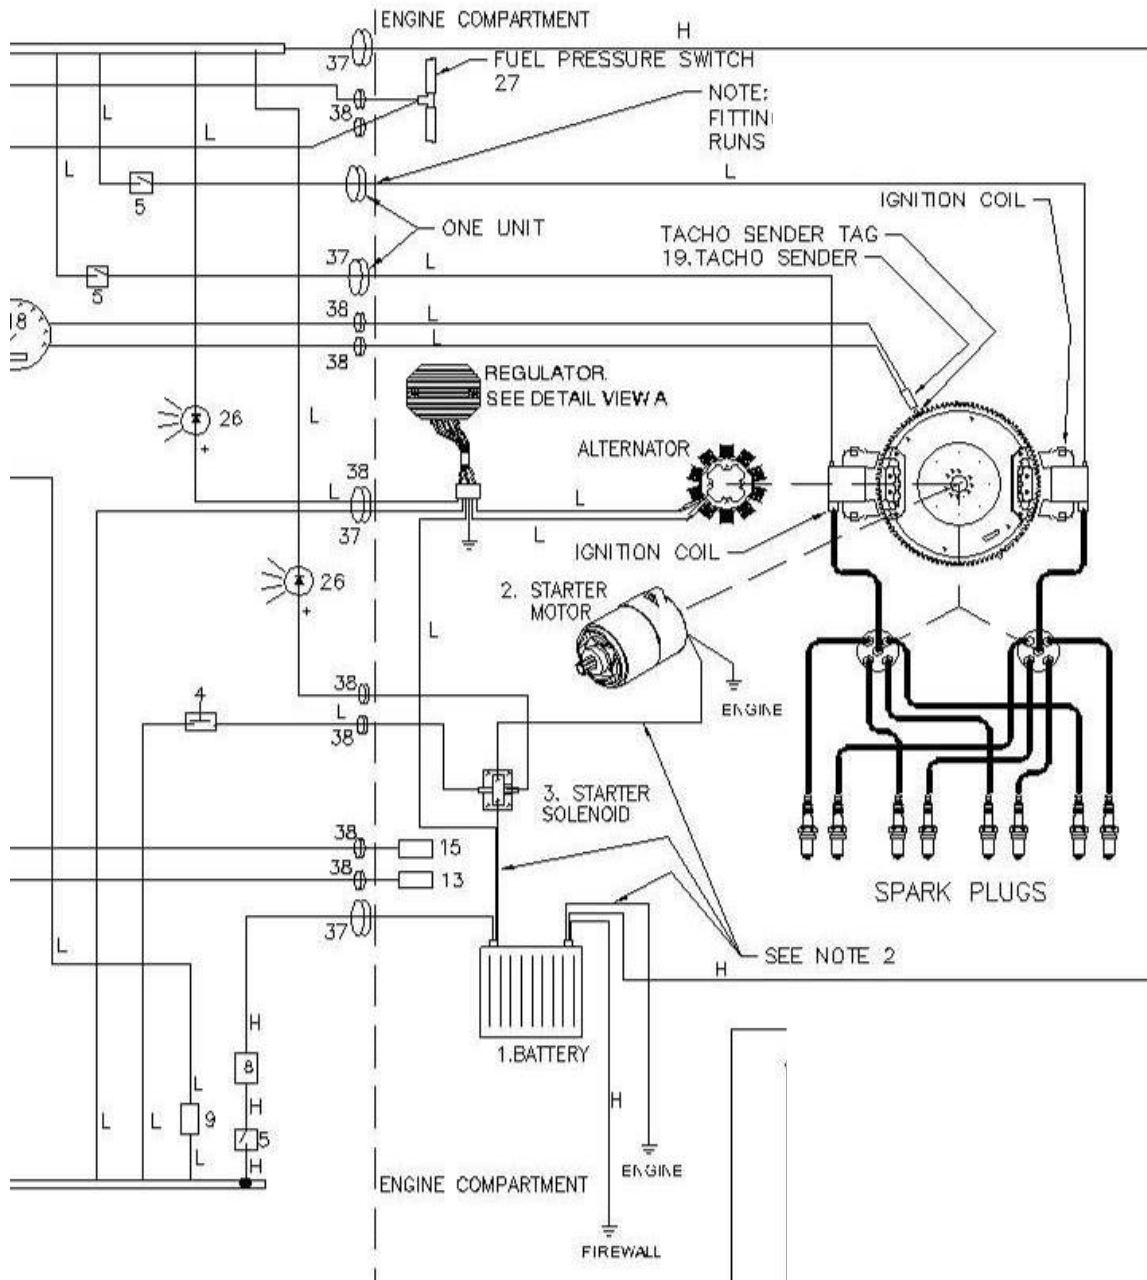

Figure 13: Example of engine wiring connections.
- The ignition is turned OFF by grounding the coils via the ignition switches. This is the reverse of most electrical systems: when the ignition switch is in the open (not connected) position the coil is LIVE and will fire. Wiring details are shown in Figure 13
- Wiring details are shown in Figure 13.
- The engine can be fitted with the inductive pickup shown in Figure 13. Some Gen 4 engines may not be fitted with the mount for this pickup instead the hall effect sender can be fitted instead.
- If the aircraft has a metallic firewall it can be used as a shield to block the majority of RF noise. To be most effective any wire that passes through the firewall should be fitted with a Ferrite Bead (also known as a Suppressor or RF Suppressor). Bundles of wires can have a single large Suppressor fitted rather than a Suppressor for each wire. The wiring diagram in Figure 13 shows suppressors in schematic form. These suppressors are readily available at local electronics stores.